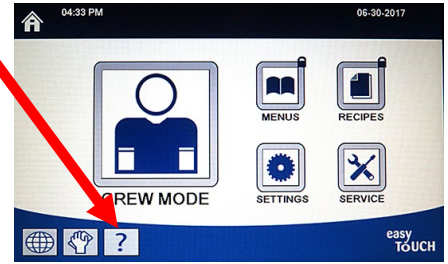

Figure 22
- 5. Press the ? button (see Figure 22).